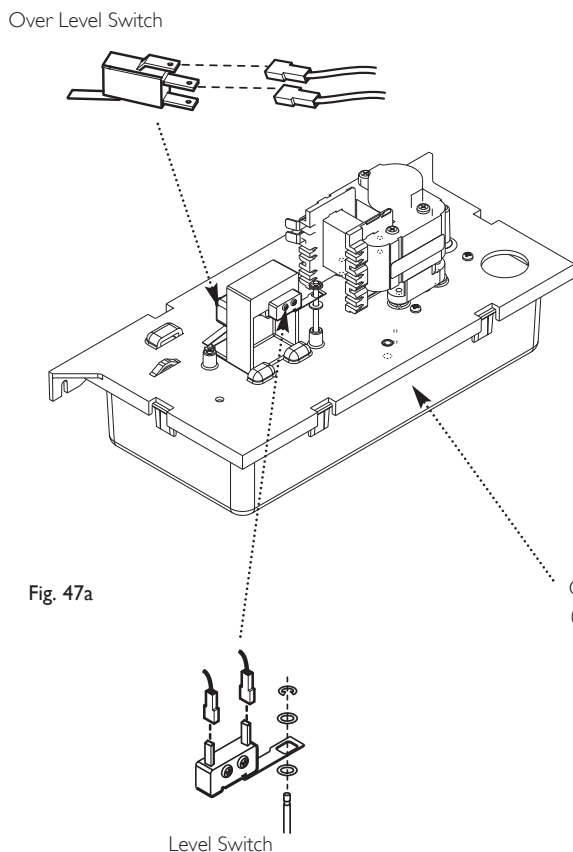

Fig. 47a
15.4 Condensate Pump - Complete (Fig. 47a)
15.5 Condensate Pump - Level Switches (Fig. 47a)